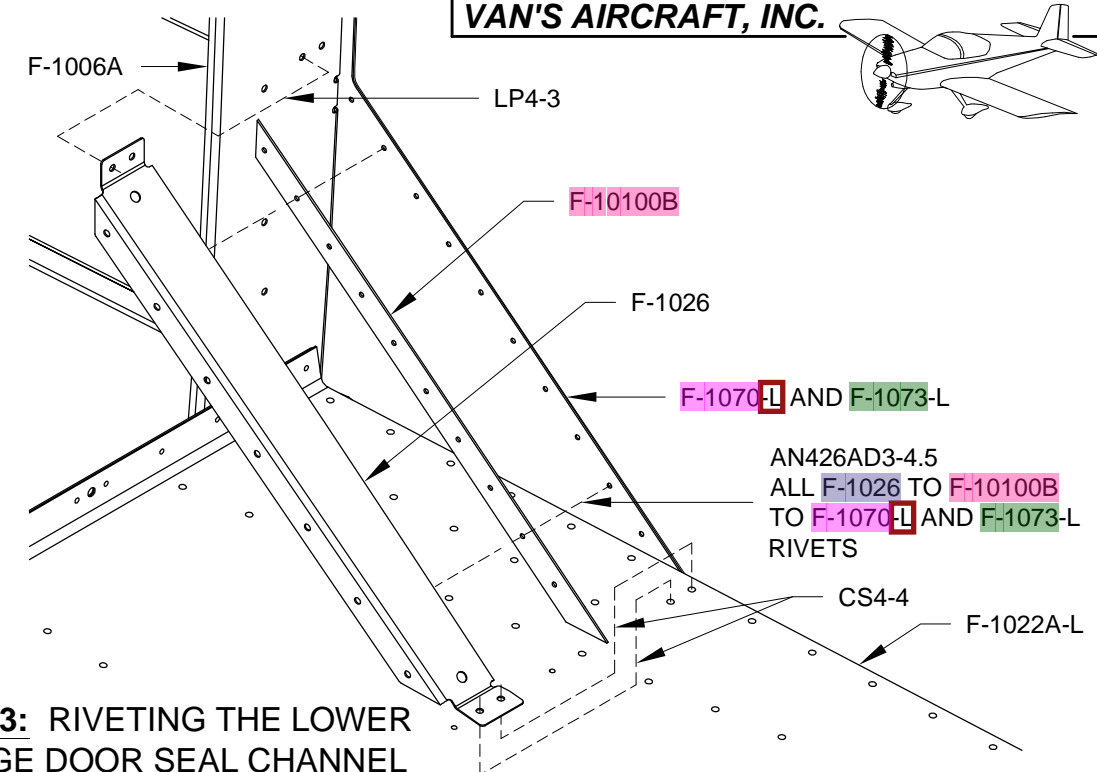

FIGURE 3: RIVETING THE LOWER
Step 3: Rivet the F-1026 Lower Baggage Door Seal Channel and the F-10100B Baggage Door Shim to the F-1070-L and F-1073-L Side Skins using the rivets called-out in Figure 3.